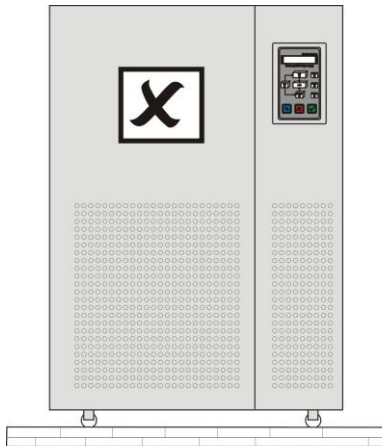

Figure 9
6. Do not position UPS in places which contain caustic gas. (Figure 9)